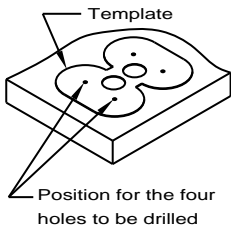

Figure 1
1. Place template in desired position on the work surface. Check to be sure there are no support braces or drawers below this area. Drill first 1/8" pilot hole, insert a 1/8" pin (a #8 nail is recommended) in the hole so the template will not move and drill second pilot hole. Insert a second 1/8" pin (nail) in this hole before drilling the remaining pilot holes (Figure 1).